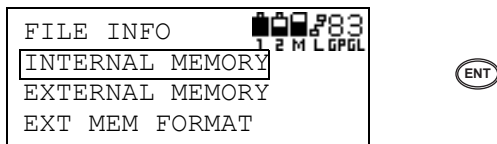

Figure 3-94. Select Internal Memory and Press Enter
- On the File Info screen, select either INTERNAL MEMORY or EXTERNAL MEMORY and press **ENT** (Figure 3-94).